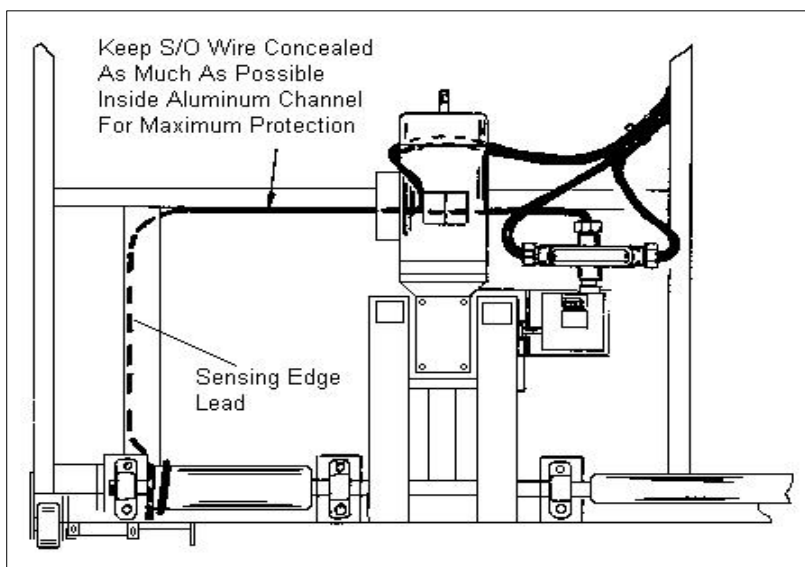
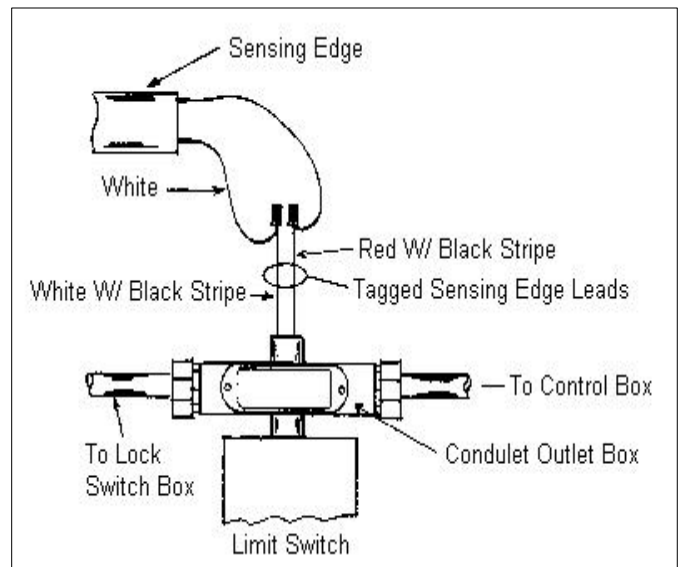

Figure 94 Electrical connections for sensing edge
Figure 95 Electrical connections for sensing edge
5. After sensing edge is installed across bottom of door route wires to give them protection from damage and wear and connect to conduit outlet box on limit switch and make necessary electrical connection. **SEE Figure 94 on page 51 & Figure 95.**